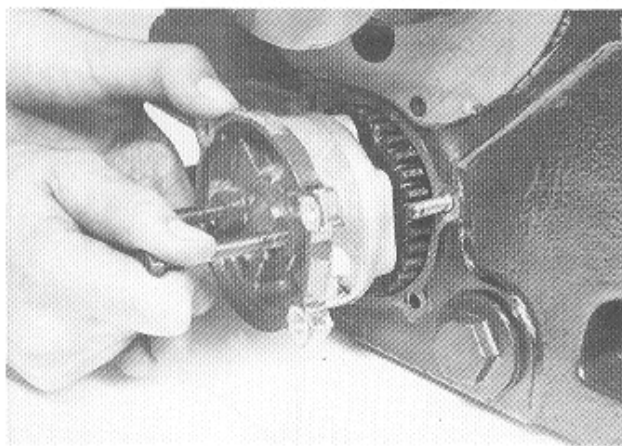

Figure 2.2 Removal of Rotary Oil Pump
- (1) Drain the oil from the sump by removing the oil drain plug from the bottom front of the crankcase to the oil pump.
- (2) Remove the three 5/16 in. BSF bolts and washers and the 1/4 in. BSF nut and washer retaining the pump.
- (3) Screw two 5/16 in. BSF bolts into the holes provided in the pump and exert an even pull on both bolts as shown in Figure 2.2.